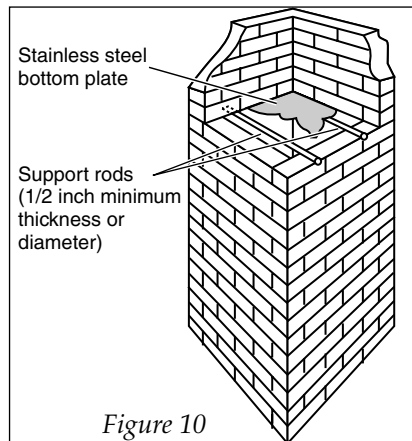

Figure 10
- Install support rods and bottom plate as shown (Figure 10) so the take-off will line up with the thimble hole. The tee sits on the plate which supports the weight of the liner.